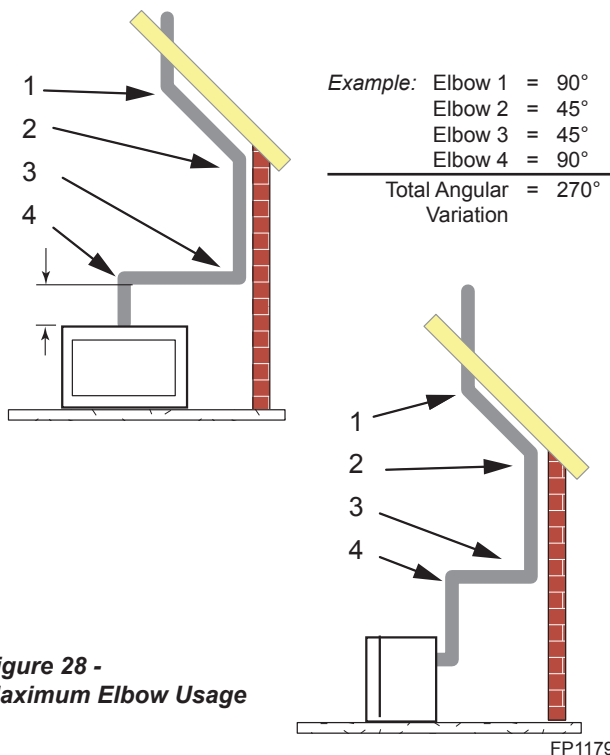

Figure 28 -
- Two sets of 45° elbows offsets may be used within the vertical sections. From 0 to a maximum of 8' (2.5 m) of vent pipe can be used between elbows. *Figure 28*
- The maximum angular variation allowed in the system is 270°. *Figure 28*